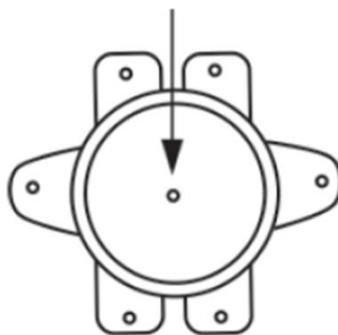

Fig 7
- Press the button located in the center of the thermal switch (round shape, near the heating element) until you hear a click, see Fig. 7;